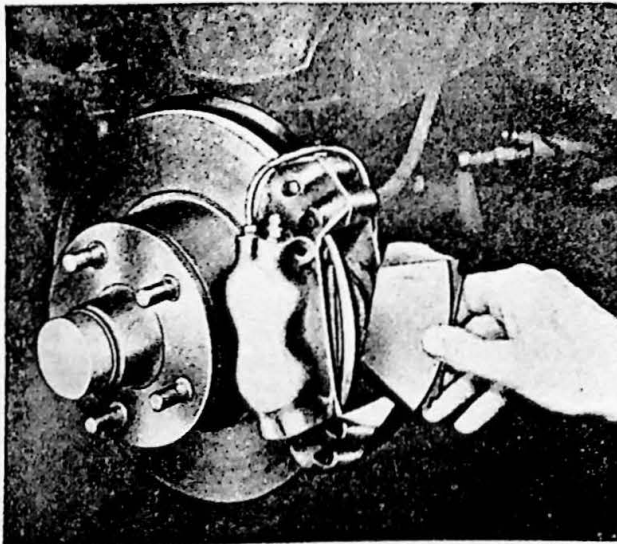

Fig. 7-10. Fitting the brake blocks
3. Remove the hairpin-shaped locking clips and guide pins for the brake blocks. Pull out the blocks, see Fig. 7-10.